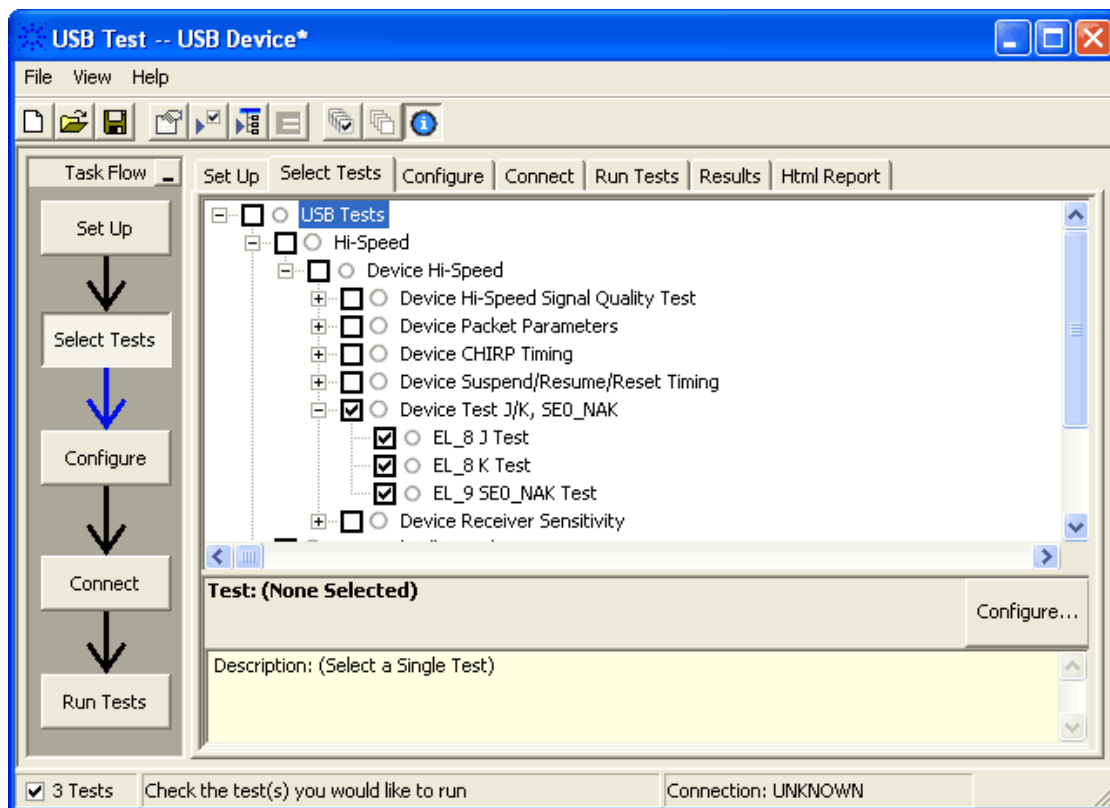

Figure 51. Device Test_J/K, SE0_NAK Test
1. Select the test items in the USB Automated Test software on the oscilloscope as shown in Figure 51.